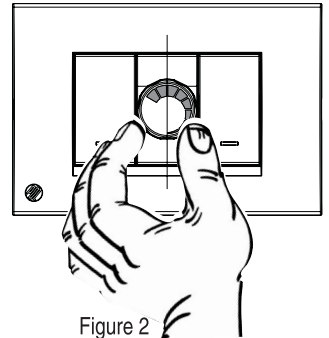

Figure 2
- 2 The dimmer knob should then be fitted, ensuring that the thin end of the gradient scale is at the bottom lined up with the vertical (see figure 2).